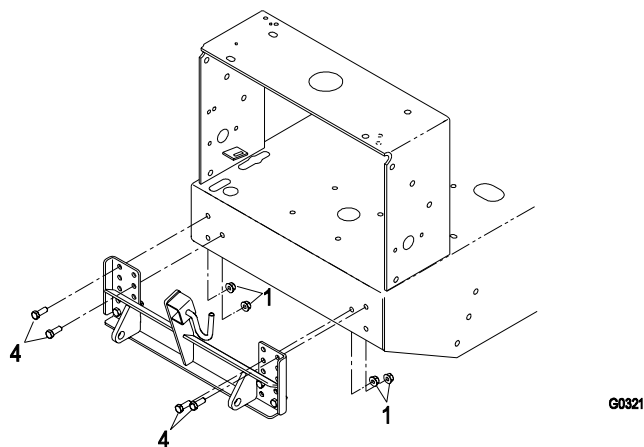

FIGURE 6
3. Install the mount brackets to the mower engine deck using (2) 3/8-16 x 1 1/4 hex cap screws (Item 4) and (2) 3/8-16 flanged nyloc nuts (Item 1) as shown in Figure 6.